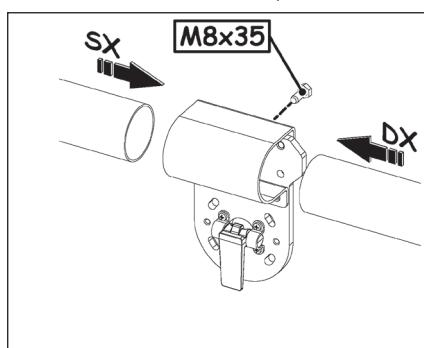

Fig. 24
There is a hole at the end of the rod. The hole must be oriented in order to allow insertion of the safety screw (Fig. 24 ref. ①), thus preventing the rod from slipping down when in vertical position.